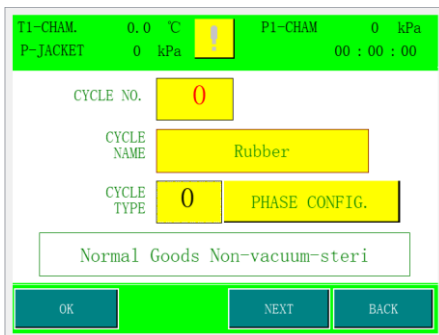
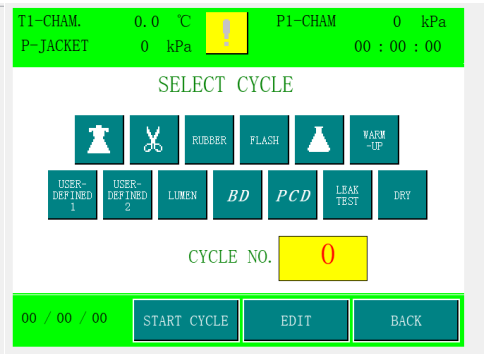
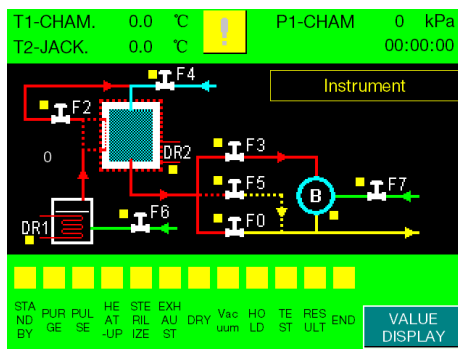

Fig. 7
Fig.10
Fig. 15
(2) Parameter settings after logging in with different permissions:
- Supervisor: The supervisor can change the password of the supervisor. After logging in, the supervisor enters the program selection screen Fig.10. After selecting the program, click Edit to enter the Fig 7. The process can modify some parameters of the sterilization process as shown in Fig 7 and 8. The sterilization temperature, pulse count, sterilize temperature, chamber pressure limit (upper limit), cooling temperature and drying time can be changed. The stage configuration in Fig.7 belongs to the standard configuration of the device and does not need to be set up.
When entering Fig. 7 and 8 above the supervisor's authority, the sterilization parameters of the program can be modified:
After logging in with different permissions, select the startup program, enter the program selection screen as shown in Fig. 10, and select the corresponding program. If you need to modify the parameters, click Edit to modify the parameters. If you do not need to modify, click Start directly, enter the startup parameter screen as shown in Fig. 11, and click the startup program again to enter the main process screen as shown in Fig. 15.
2) While the program is running, Click the numerical display button to monitor the running times and running time of each stage in real time from the screen, display the pressure and temperature in the sterilization chamber on the main process screen and display the current stage of the equipment, as shown in Fig. 15 (when the program is running or has been running, there is a light on the top of the stage, such as).